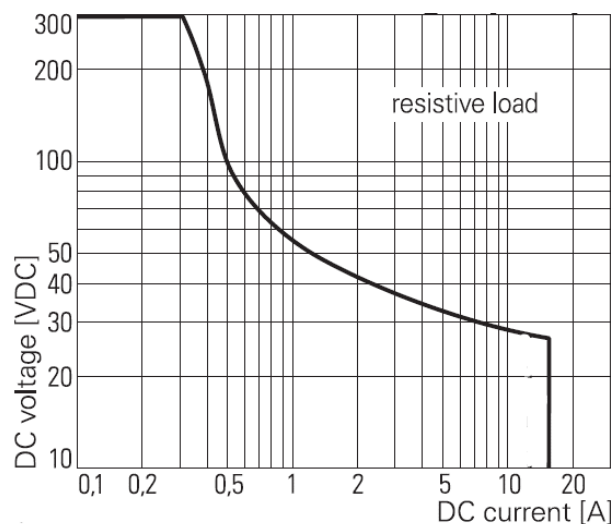

Figure 3-15: Max. DC load breaking capacity
* For DC Voltage and Current, refer Figure 3-15.